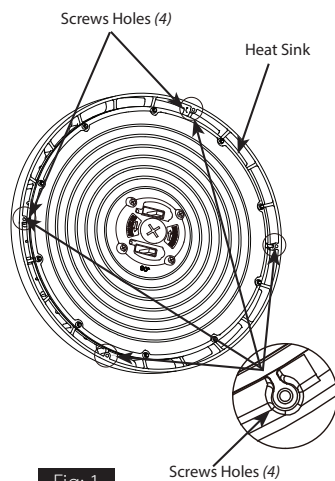

Fig: 1
1. Align the **Reflector** screw holes with the **Heat Sink** as shown in Fig. 1, and 2.